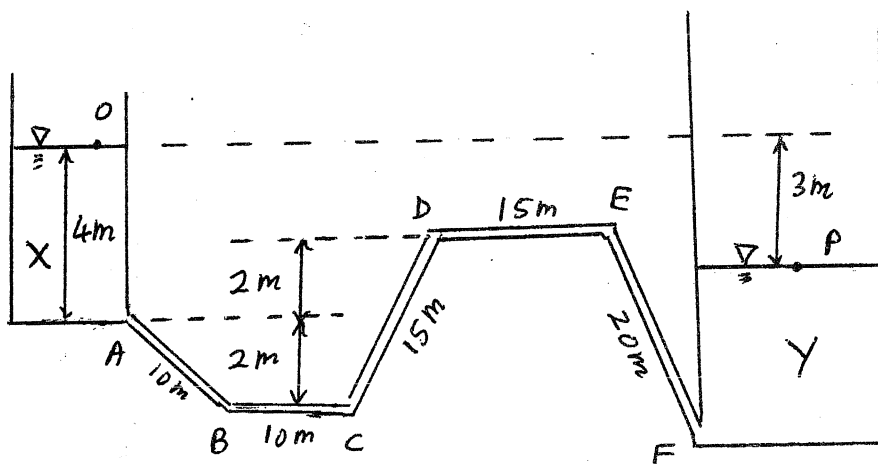

FIGURE 2
2) Water (density 1000 kg/m^3) flows from Tank X to Tank Y through a pipeline ABCDEF, as shown in Figure 2. All the pipes have a diameter of 1 cm and a friction factor of 0.01. Pipes AB and BC are both 10 m long, pipes CD and DE are both 15 m long, while pipe EF is 20 m long. Tanks X and Y have uniform cross sections and the cross-sectional area of Tank X is 10 m^2 while the cross-sectional area of Tank Y is 15 m^2 .
When the water levels of the tanks are as shown in Figure 2, it is found that the lowest pressure in the pipeline is 1.6 kPa below atmospheric pressure.